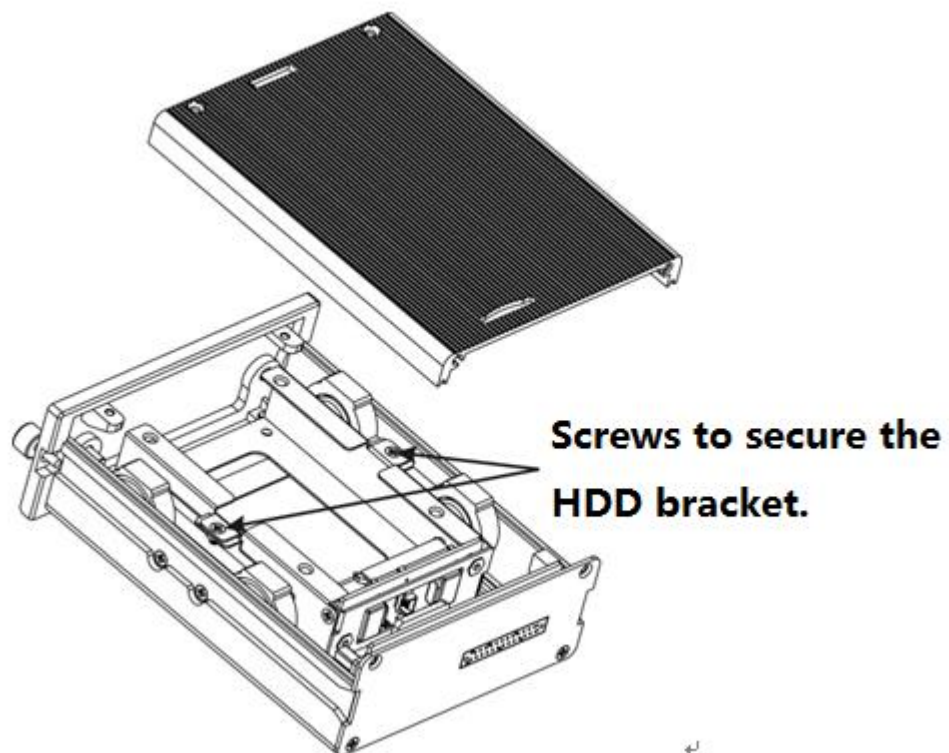

Figure 2-13
Step 3 Remove HDD bracket. Now you can see an interface shown as in Figure 2-13. Unfasten the two screws that secure the HDD bracket.